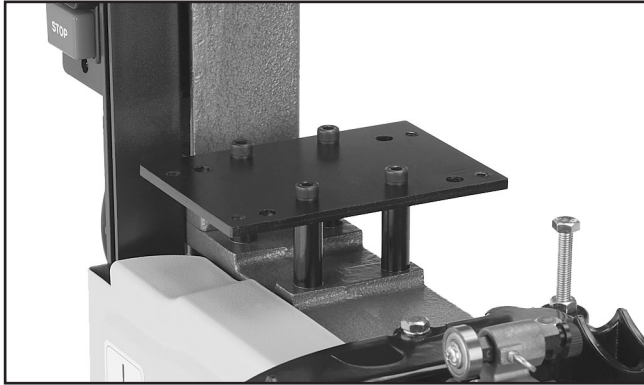

Figure 9. Lever body attached.
9. Attach the lever board to the bandsaw body with the four spacers and four M8-1.25 x 60 cap screws, as shown in **Figure 9**.